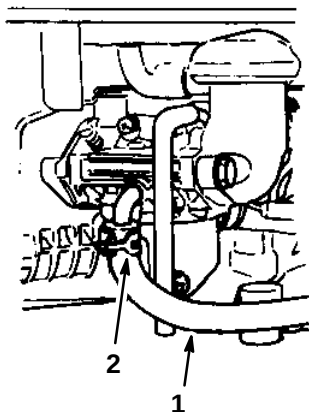

Figure 17
3. Remove the fuel tube by loosening the tube clamp at the carburetor (Fig. 17).